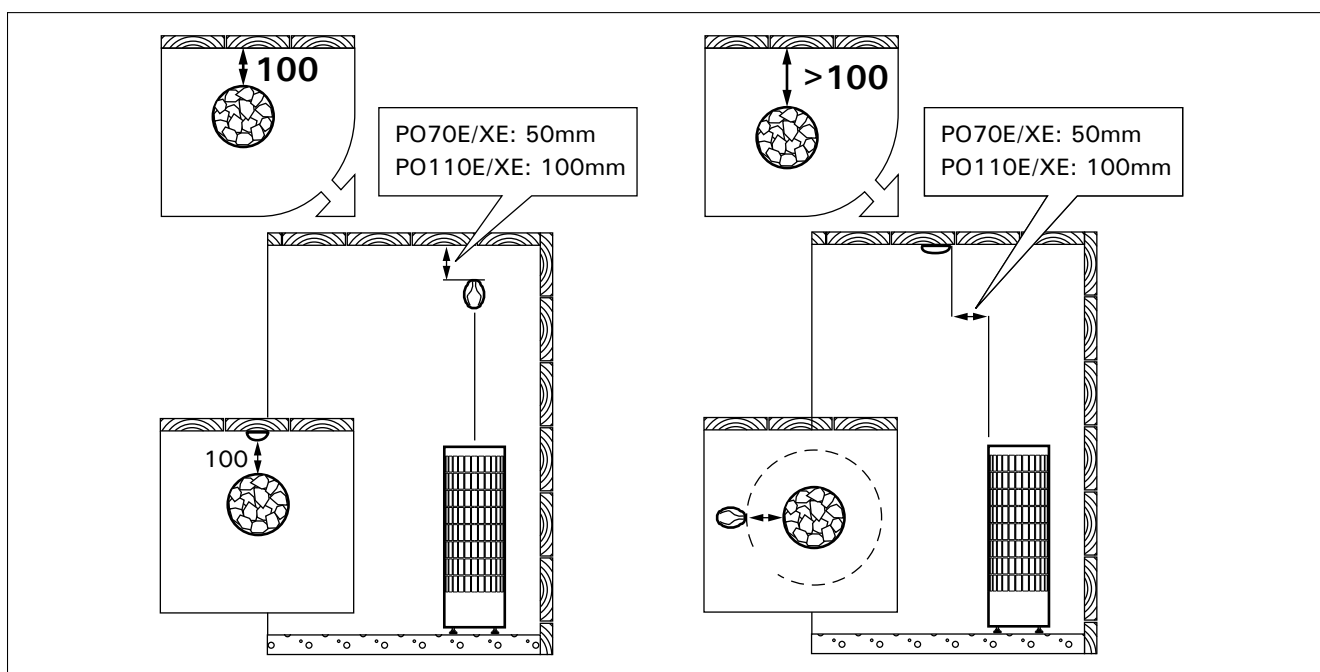

Figure 8. Installing the temperature sensor (all dimensions in millimeters)
- **POXE:** Install the sensor as shown in figure 8. Connect the sensor cable to the connector in the heater on a colour-to-colour principle.
- **POE:** Install the sensor, delivered with the heater) as shown in figure 8.
The sensor must be installed to the place defined in these instructions (figure 8). If the minimum distance is not fulfilled, ventilation must be changed.